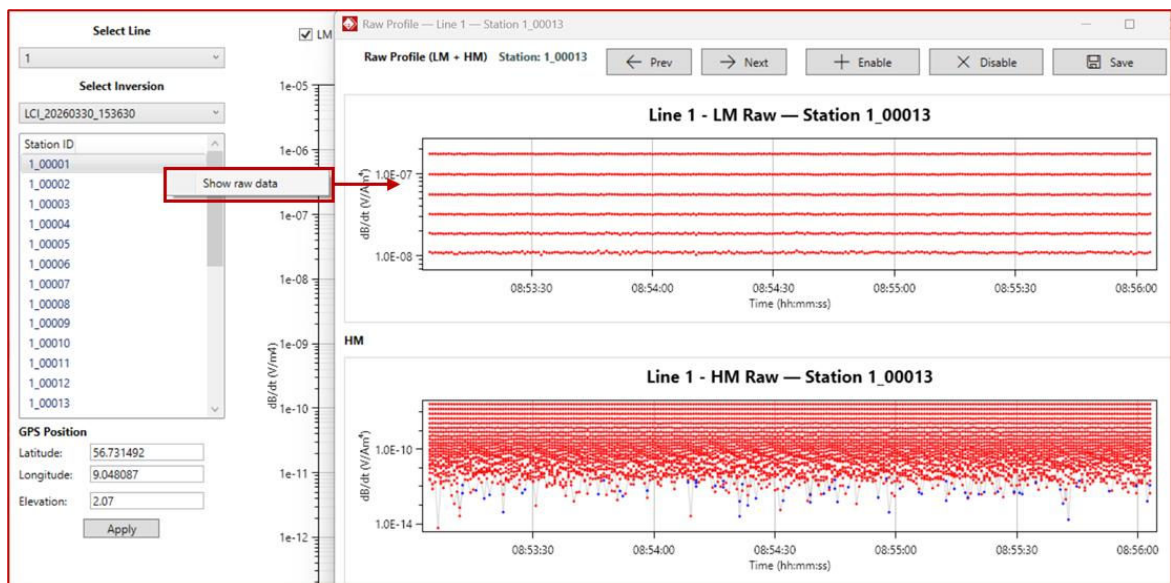

Figure 9: Visualization of raw sTEM data
- Right-click and select **Show Raw Data** (Figure 9)